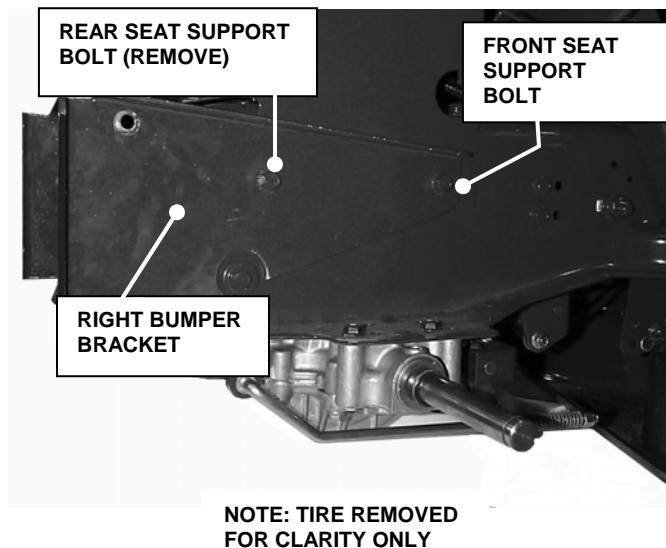

FIGURE 1.1
- A. Remove right rear Seat Support bolt. See Figure 1.1. **Note:** Removal of rear tires is not required to complete Bracket installation.